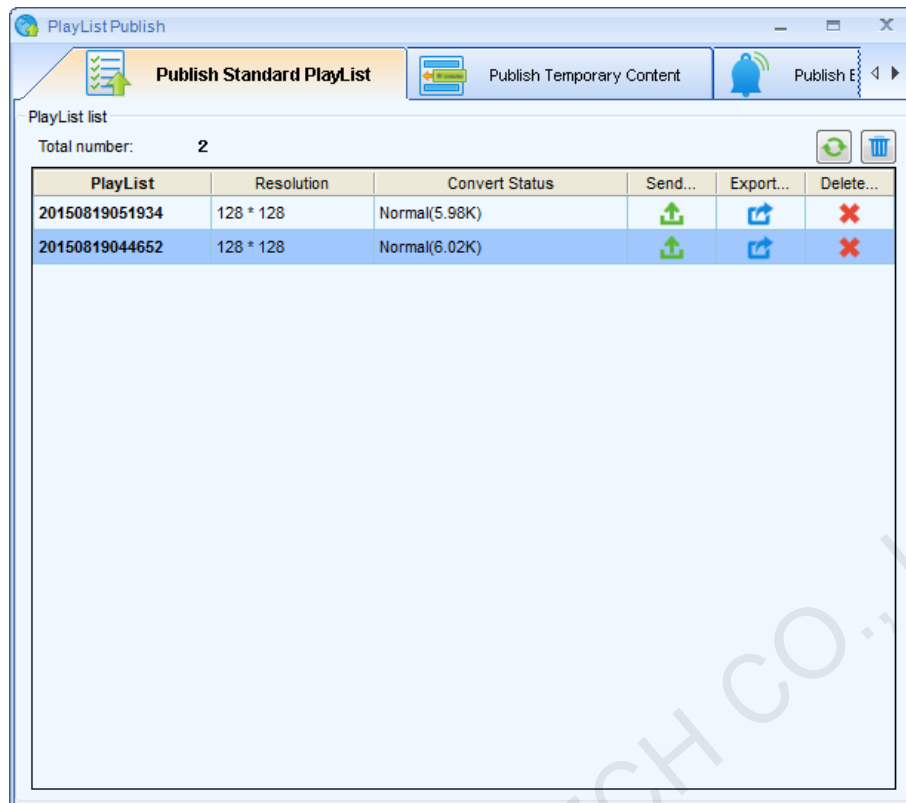

Fig. 10-65 Play-Program conversion result
- 1) Press  in Fig. 10-65 to enter offline export settings shown as below,